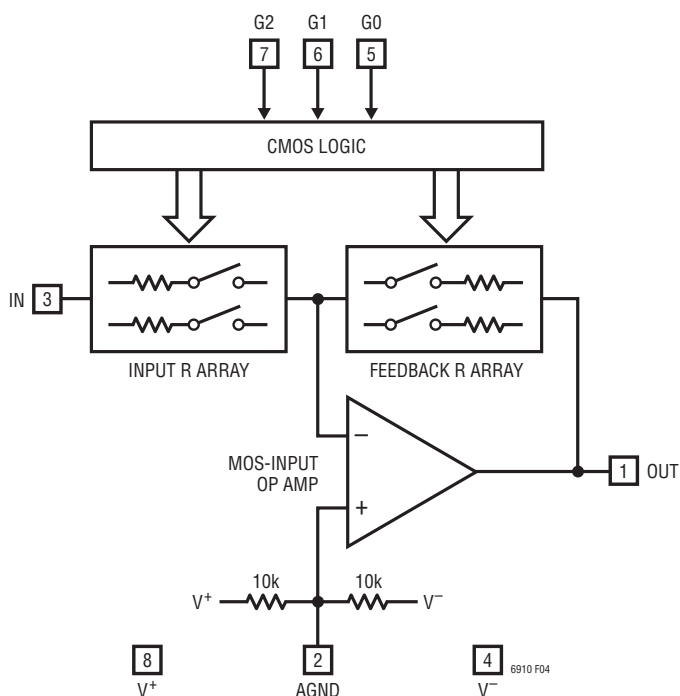
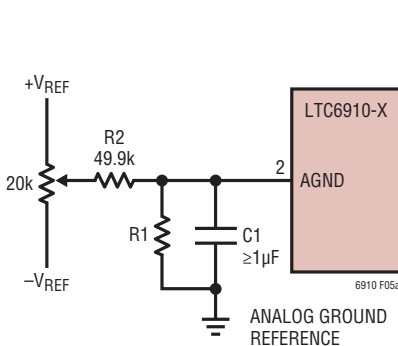

Figure 4. Block Diagram
Figure 5a. Offset Nulling
**AGND (Pin 2):** Analog Ground. The AGND pin is at the midpoint of an internal resistive voltage divider, developing a potential halfway between the  $V^+$  and  $V^-$  pins, with an equivalent series resistance to the pin of nominally 5k $\Omega$  (Figure 4). AGND is also the noninverting input of the internal op amp, which makes it the ground reference voltage for the IN and OUT pins. Because of this, very “clean” grounding is important, including an analog ground plane surrounding the package.
**IN (Pin 3):** Analog Input. The input signal to the amplifier in the LTC6910-X is the voltage difference between the IN and AGND pins. The IN pin connects internally to a digitally controlled resistance whose other end is a current summing point at the same potential as the AGND pin (Figure 4). At unity gain (digital input 001), the value of this input resistance is approximately 10k $\Omega$  and the IN voltage range is rail-to-rail (V+ to V-). At gain settings above unity (digital input 010 or higher), the input resistance falls. Also, the linear input voltage range falls in inverse proportion to gain. (The higher gains are designed to boost lower level signals with good noise performance.) Tables 1, 2, and 3 summarize this behavior. In the “zero” gain state (digital input 000), analog switches disconnect the IN pin internally and this pin presents a very high
The LTC6910 family are small outline, wideband inverting DC amplifiers whose voltage gain is digitally programmable. Each delivers a choice of eight voltage gains, controlled by the 3-bit digital inputs to the G pins, which accept CMOS logic levels. The gain code is always monotonic; an increase in the 3-bit binary number (G2 G1 G0) causes an increase in the gain. Table 1, Table 2 and Table 3 list the nominal voltage gains for LTC6910-1, LTC6910-2 and LTC6910-3 respectively. Gain control within each amplifier occurs by switching resistors from a matched array in or out of a closed-loop op amp circuit using MOS analog switches (Figure 4). Bandwidth depends on gain setting. Curves in the Typical Performance Characteristics section show measured frequency responses.
Settling time in the CMOS gain-control logic is typically several nanoseconds and faster than the analog signal path. When amplifier gain changes, the limiting timing is analog, not digital, because the effects of digital input changes are observed only through the analog output (Figure 4). The LTC6910-X's logic is static (not latched) and therefore lacks bus timing requirements. However, as with any programmable-gain amplifier, each gain change causes an output transient as the amplifier's output
The electrical tables list DC offset (error) voltage at the inputs of the internal op-amp in Figure 4,  $V_{OS(OA)}$ , which is the source of DC offsets in the LTC6910-X. The tables also show the resulting, gain dependent offset voltage referred to the IN pin,  $V_{OS(IN)}$ . These two measures are related through the feedback/input resistor ratio, which equals the nominal gain-magnitude setting, G:
Offset voltages at any gain setting can be inferred from this relationship. For example, an internal offset  $V_{OS(OA)}$  of 1mV will appear referred to the IN pin as 2mV at a gain setting G of 1, or 1.5mV at a gain setting of 2. At high gains,  $V_{OS(IN)}$  approaches  $V_{OS(OA)}$ . (Offset voltage can be of either polarity; it is a statistical parameter centered on zero.) The MOS input circuitry of the internal op amp in Figure 4 draws negligible input currents (unlike some op amps), so only  $V_{OS(OA)}$  and G affect the overall amplifier's offset.
Because internal op amp offset voltage  $V_{OS(OA)}$  is gain independent as noted above, offset trimming can be readily added at the AGND pin, which drives the noninverting input of the internal op amp. Such a trim shifts the AGND voltage slightly from the system's analog ground reference, where AGND would otherwise connect directly. This is convenient when a low resistance analog ground potential or analog ground reference exists, for the return of a voltage divider as in Figure 5a. When adjusted for zero DC output voltage when the LTC6910-X has zero DC input voltage, this DC nulling will hold at other gain settings also.
Figure 5a shows the basic arrangement for dual-supply applications. A voltage divider (R1 and R2) scales external reference voltages  $+V_{REF}$  and  $-V_{REF}$  to a range equaling or slightly exceeding the approximately  $\pm 10\text{mV}$  op amp offset-voltage range. Resistor R1 is chosen to drop the  $\pm 10\text{mV}$  maximum trim voltage when the potentiometer is set to either end. Thus if  $V_{REF}$  is 5V, R1 should be about  $100\Omega$ . Note also that the two internal 10k resistors in Figure 4 tend to bias AGND toward the mid-point of  $V^+$  and  $V^-$ . The external voltage divider will swamp this effect if R1 is much less than  $5\text{k}\Omega$ . When considering the effect of the internal 10k resistors, note that they form a Thévenin equivalent of  $5\text{k}$  in series with an open-circuit voltage at the halfway potential  $(V^+ + V^-)/2$ . (Although
With this trim technique in place, the remaining DC offset sources are drifts with temperature (typically  $6\mu\text{V}/^\circ\text{C}$  referred to  $V_{OS(OA)}$ ), shifts in the LTC6910-X's supply voltage divided by the PSRR factors, supply voltage shifts coupling through the two 10k internal resistors of Figure 4, and of course any shifts in the reference voltages that supply  $+V_{REF}$  and  $-V_{REF}$  in Figure 5a.
At a gain setting of 10V/V in an LTC6910-1 (digital input 100) and a 250ksps sampling rate in the LTC1864, a 10kHz input signal at 60% of full scale shows a THD of -87dB at the digital output of the ADC. 100kHz input signals under the same conditions produce THD values around -75dB. Noise effects (both random and quantization) in the ADC are divided by the gain of the amplifier when referred to  $V_{IN}$  in Figure 4. Because of this, the circuit can acquire a signal that is 40dB down from full scale of 5VP-P with an SNR of over 70dB. Such performance from an ADC alone (70 + 40 = 110dB of useful dynamic range at 250ksps), if available, would be far more expensive.